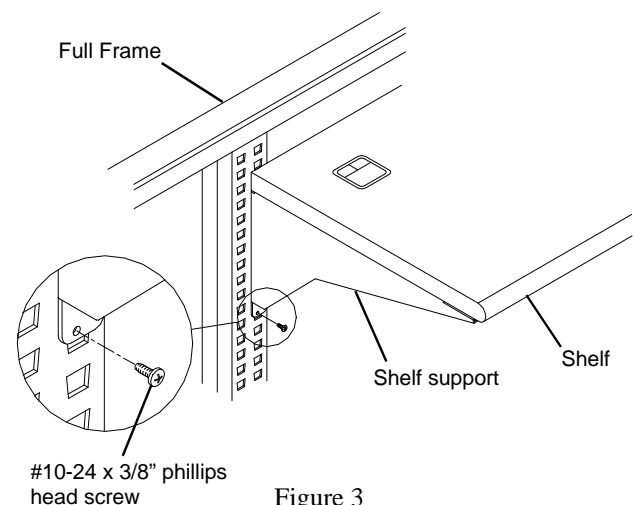

Figure 3
5. Lock the shelf supports in position with the #10-24 x 3/8" long phillips head screws provided. See **Figure 3**.